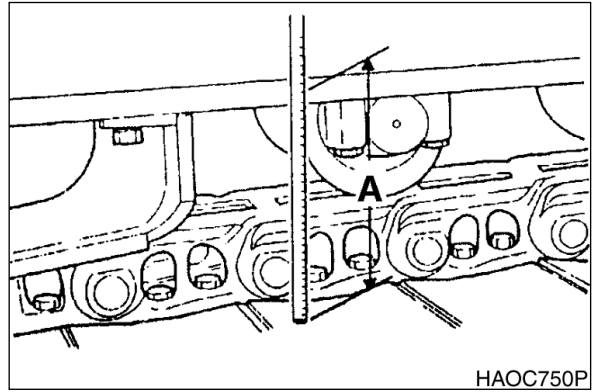

Figure 2
2. Measuring the distance (A, Figure 2) between the bottom of the side frame and the top of the lowest crawler shoe. Recommended tension for operation over most types of terrain is 340 - 370 mm (13.39 - 14.57 in)